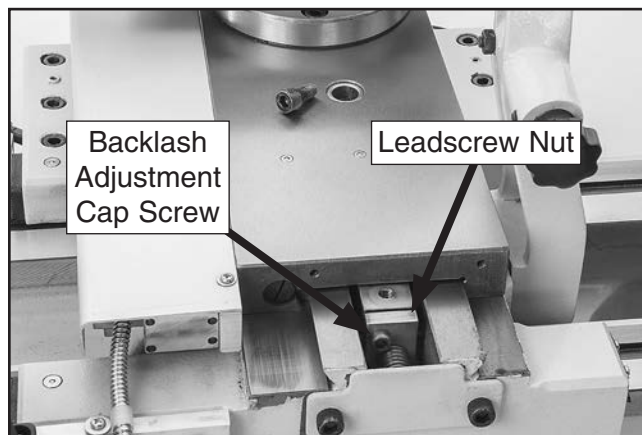

Figure 121. Leadscrew nut.
3. Rotate cross slide handle clockwise to feed leadscrew nut out from under cross slide, as shown in **Figure 121**.
4. Tighten backlash adjustment cap screw shown in **Figure 121** in small increments.